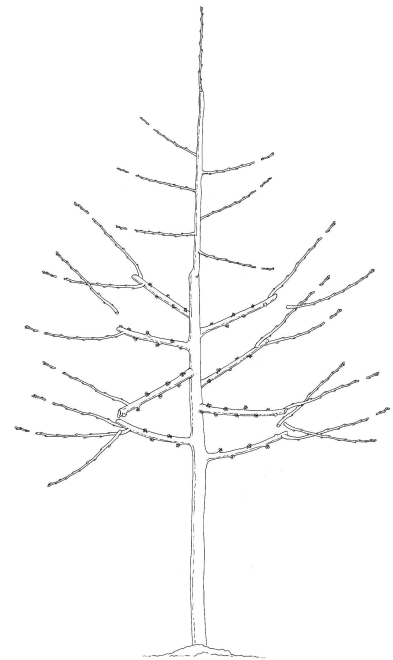

Figure 59
- Most lateral shoots should again be headed to remove 15–25 percent of the previous season's shoot length growth (Figure 59).